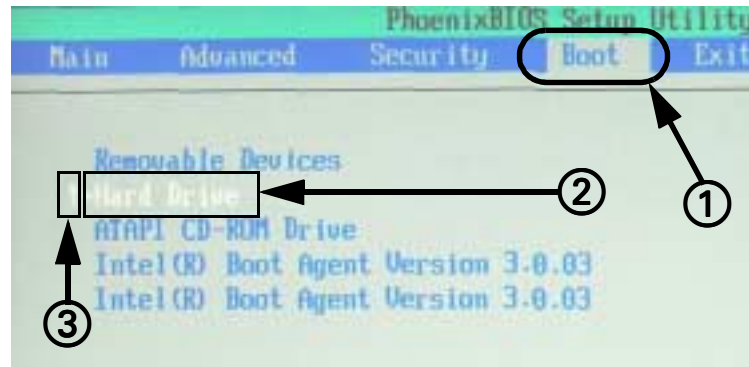

Figure 15-14 Setup Utility Window
1. Switch MDS power to ON, and then press and hold MDS keyboard *F2* key to enter BIOS setup to open PhoenixBIOS Setup Utility window (see Figure 15-14).
2. Use MDS keyboard left/right arrow keys to Select *Boot* Tab (① in Figure 15-14).
3. Use MDS keyboard Up/Down arrows to Select *+Hard Drive* (② in Figure 15-14), then hold down on Shift key, and press and release *!* key.
4. Verify that an exclamation point *!* appears to the left of *+Hard Drive* (③ in Figure 15-14).